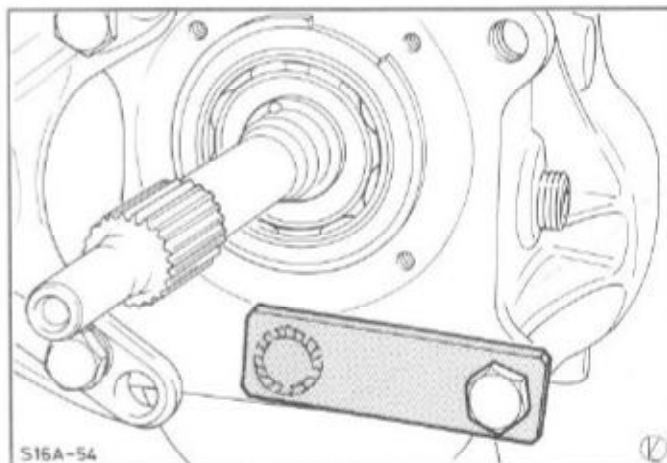
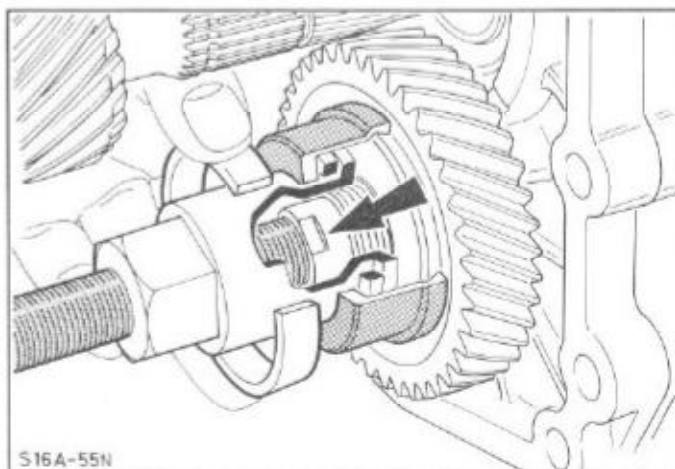

Fig.122. Bolt Special Tool securely to flywheel side.
Fig.123. Attach Special Tool to 5th gear cog.
15. Drive out countershaft using Special Tool 16-033 (tool and shaft must remain in contact) and bolt tool securely to flywheel side, Fig.122. Screw round nut onto the threaded part of the Special Tool and tighten against the countershaft. Attach Special Tool 16-033 with pull-off sleeve, half shells, washer and ring and pull off gear, Fig.123. Remove bearing spacer and Special Tool.